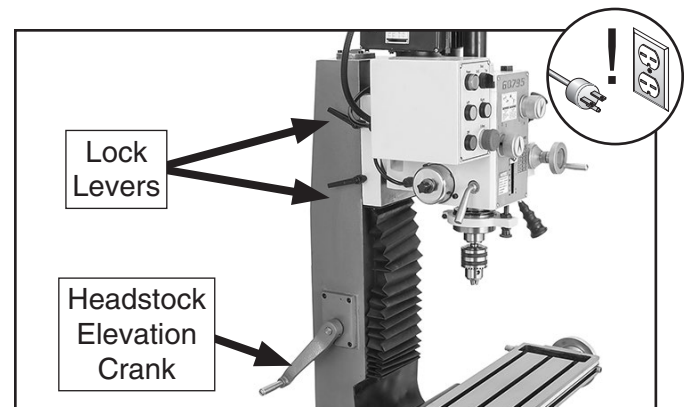

Figure 16. Location of headstock elevation controls.
1. Use headstock elevation crank (see **Figure 16** on next page) to adjust cutting tool just above workpiece surface, then secure the headstock with Z-axis lock levers.
2. Loosen both lock levers shown in **Figure 16**.
3. Use headstock elevation crank shown in **Figure 16** to adjust headstock height.